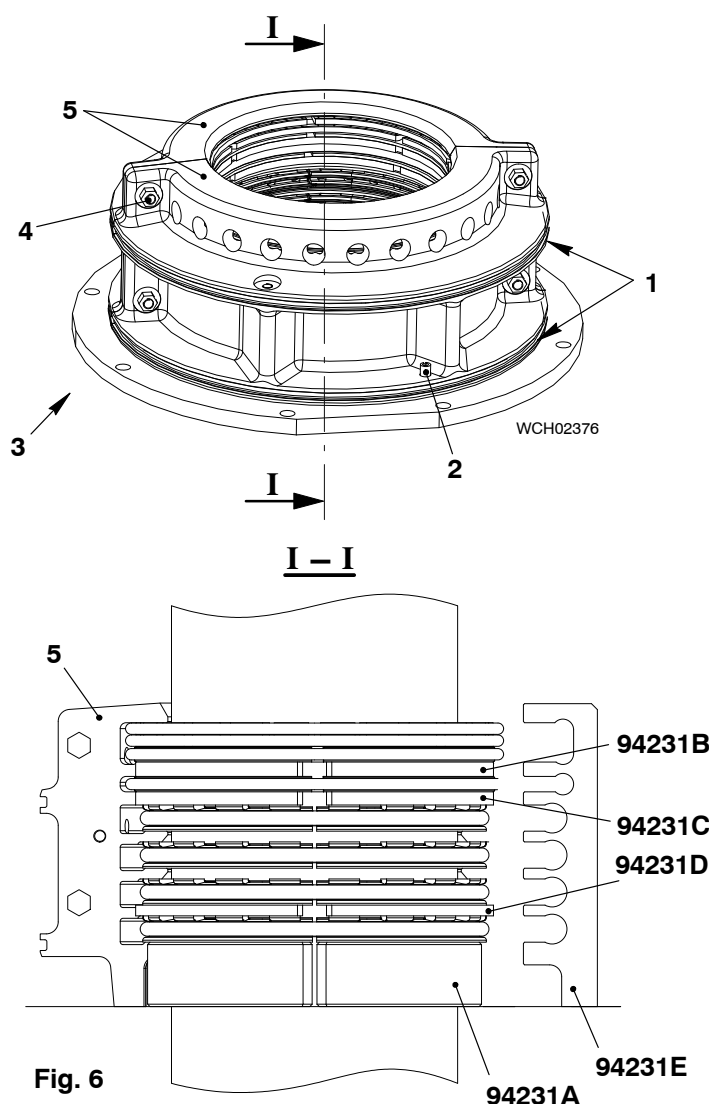

Fig. 6
- 22) Use the assembly tool (94233) to attach the tension spring (1) to the scraper ring (10).
- 24) Remove the clamp ring (94231A, Fig. 6).
- 27) Push the two parts of the housing (5) over the assembled rings. Make sure that the dowel pins (2) are installed.
- 28) Torque the two screws (4) to the value given in 0352-2 Torque Values for Standard Screws, paragraph 1.
- 29) Apply oil to the new O-rings (1).
- 30) Attach the O-rings (1) to the two parts of the housing (5).
- 31) Put the dowel pin (2) in position.